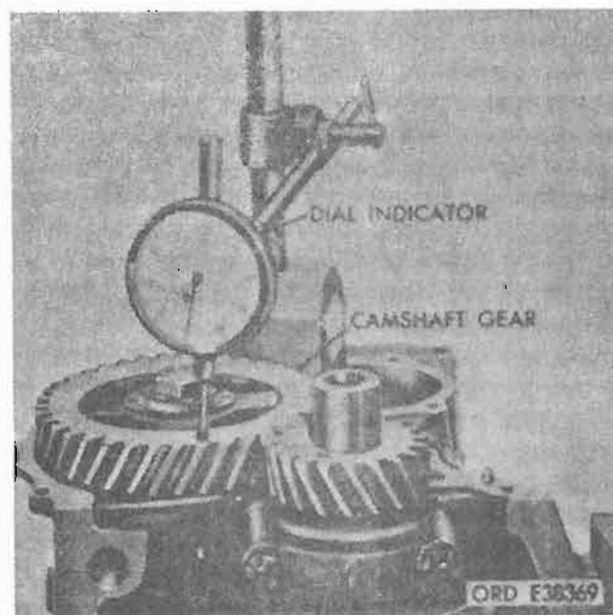

Figure 4-102. Measuring timing gear runout.
c. **Timing Gear Runout** (fig. 4-102). Place dial indicator on cylinder block with the indicator tip against camshaft gear. Hold gear firmly toward block and rotate one full turn and note runout on indicator dial. Refer to repair standards (table 4-8).